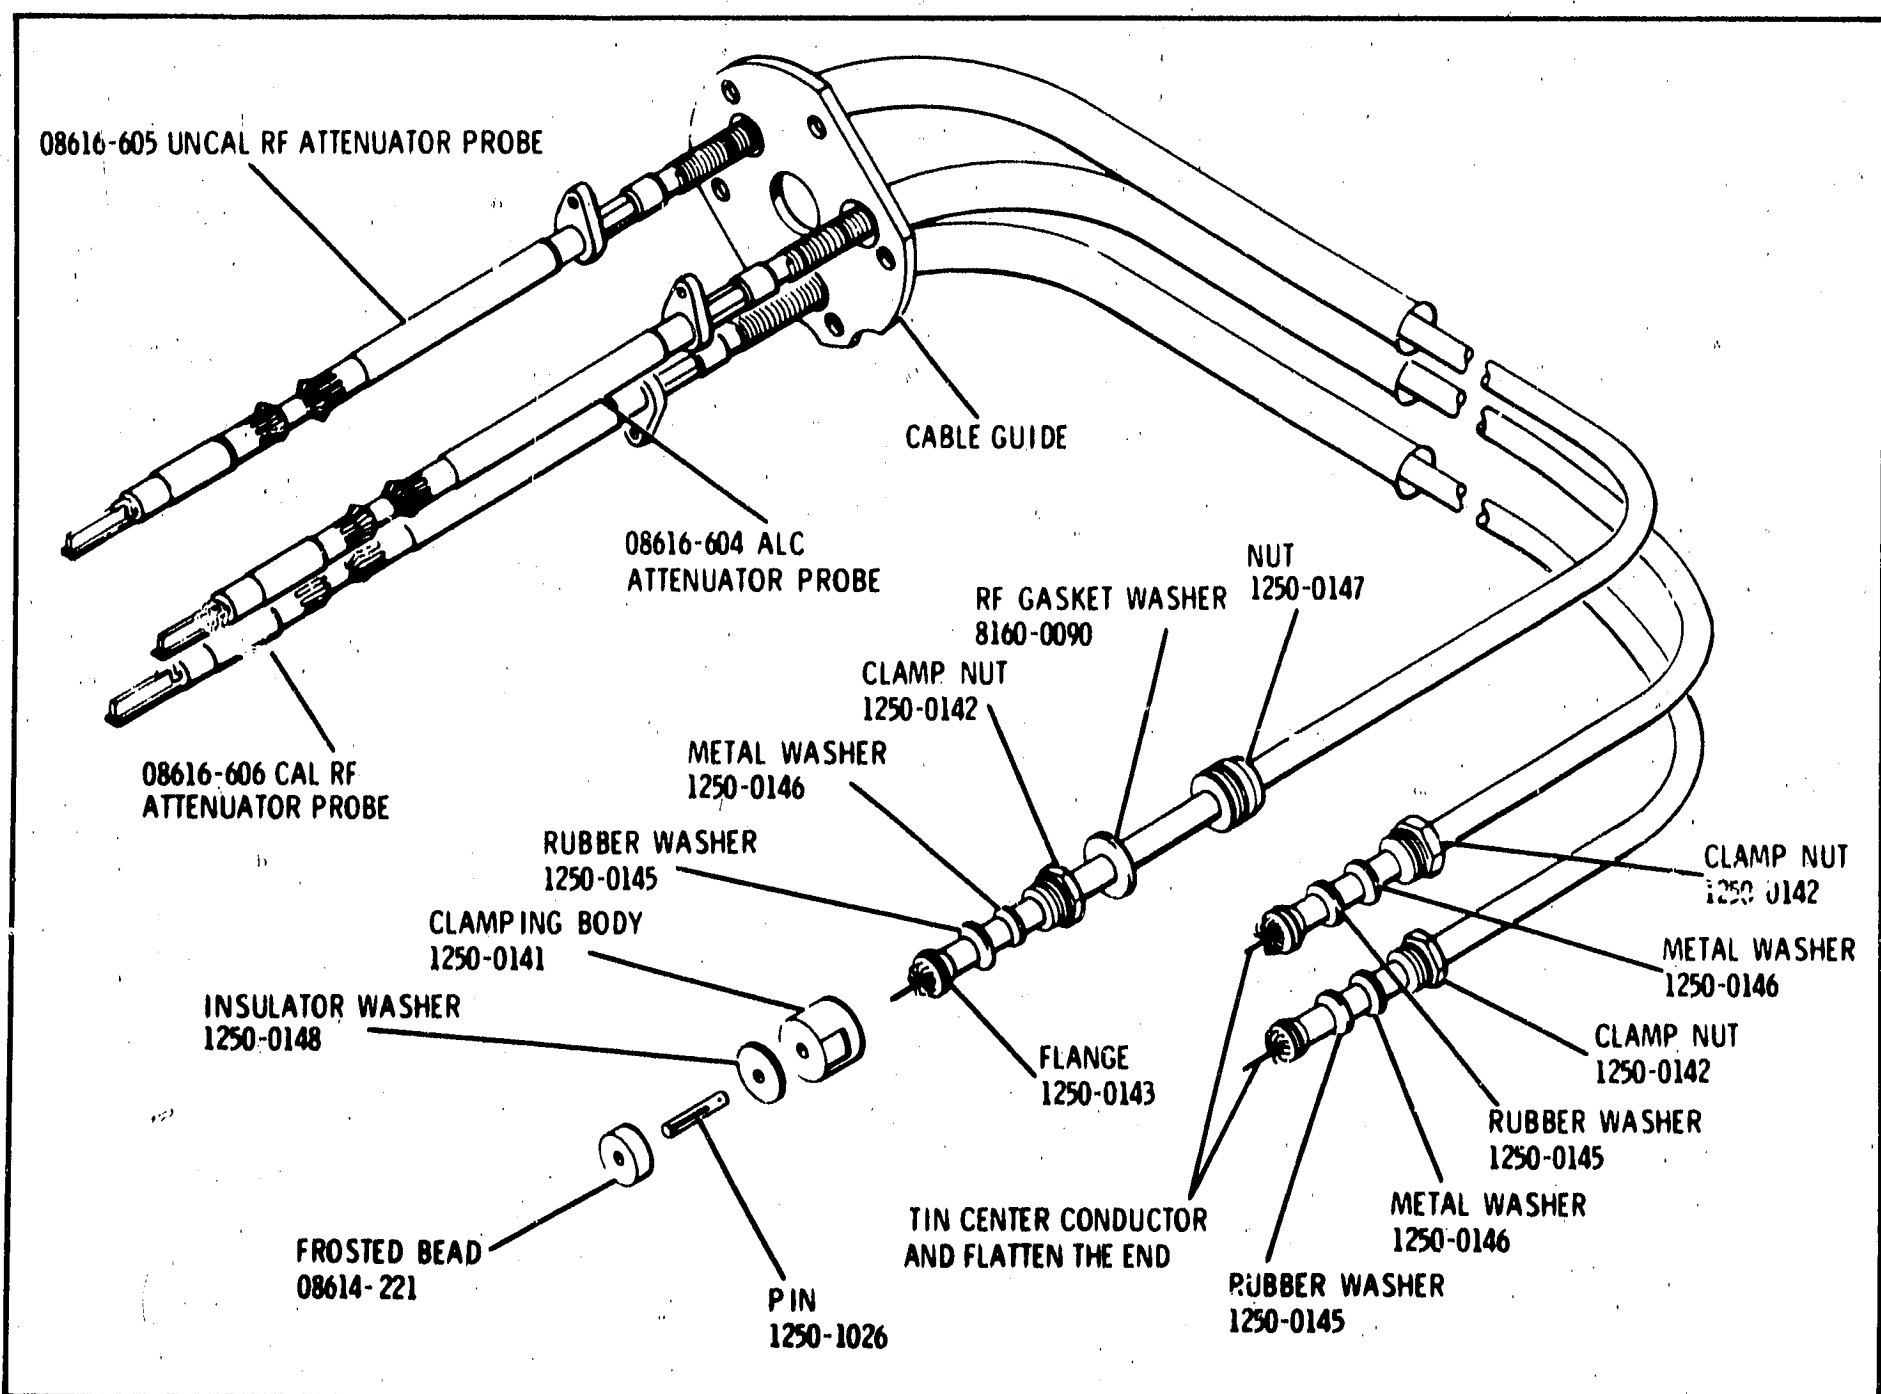

Figure 5-3. RF Probe Assembly
d. Place cable assembly connector parts on cable, with the exception of the clamping body, and fold the braid upon the connector assembly (see Figure 5-3).
e. Disconnect probe cable assembly connectors from the modulator (see Figure 5-3). Be care-